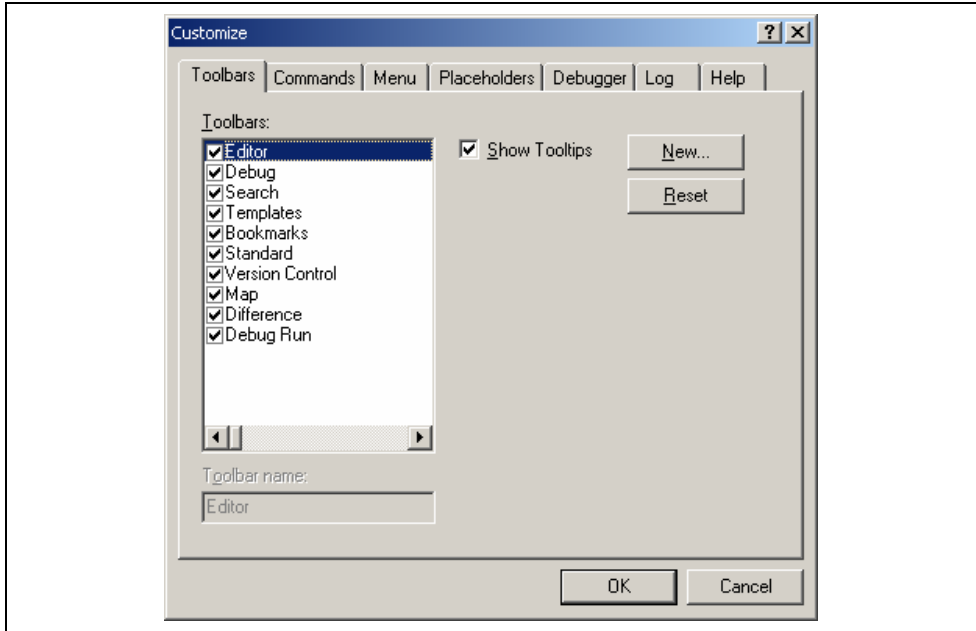
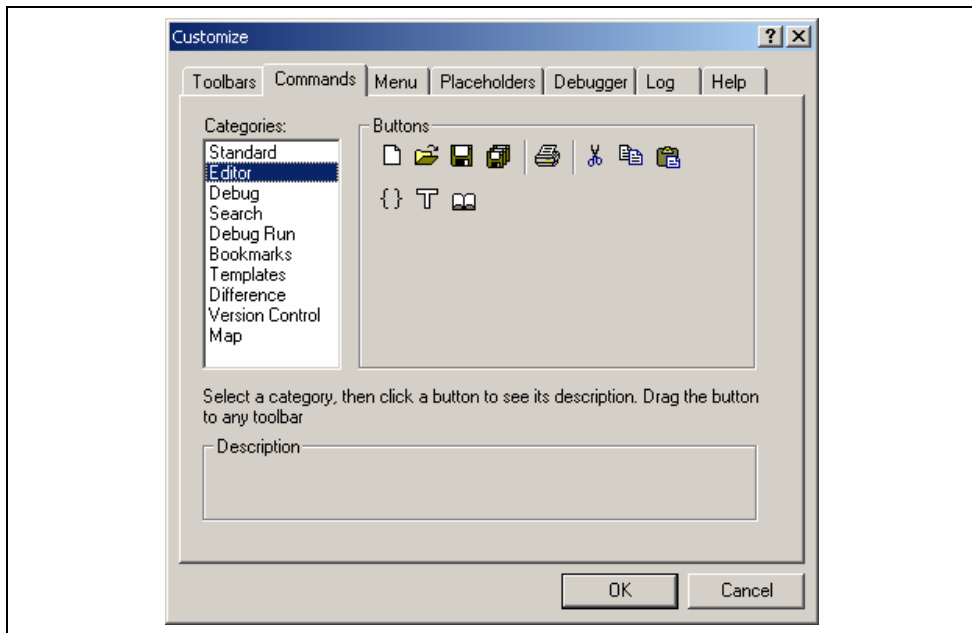
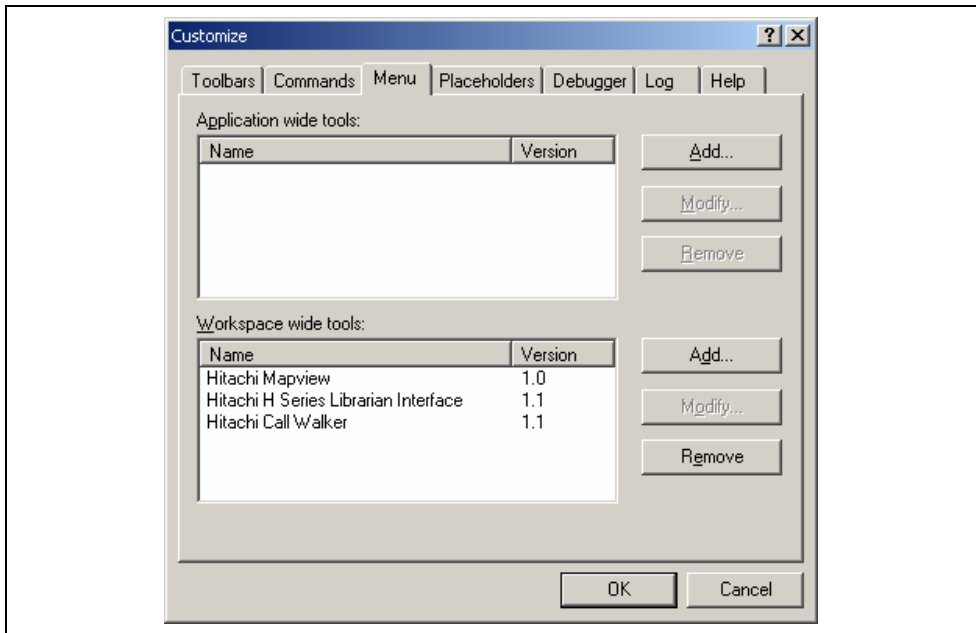
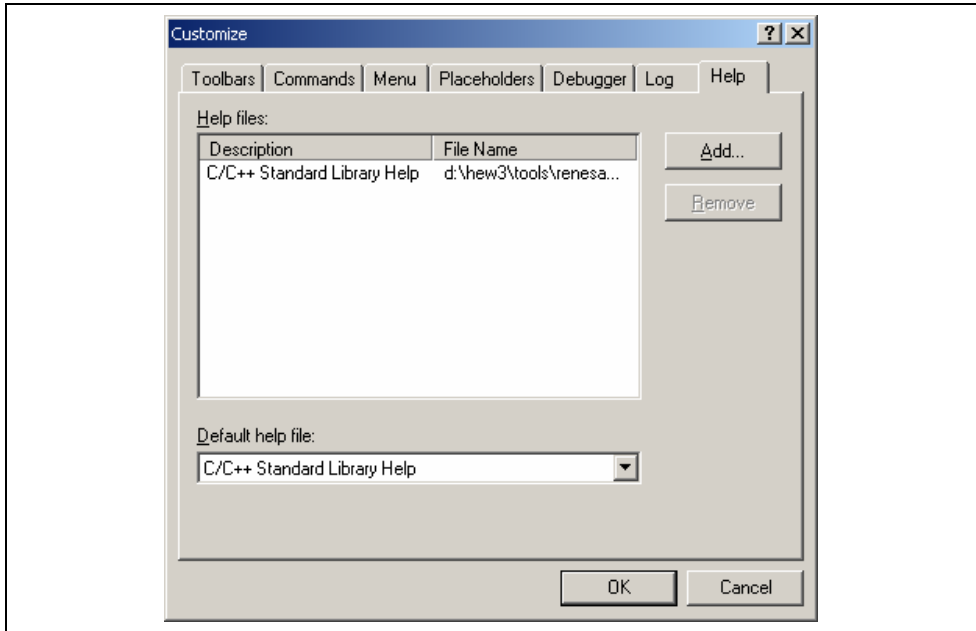

Figure 6.1: Customize Dialog Toolbars Tab
Figure 6.3: Customize Dialog Commands Tab
Figure 6.4: Customize Dialog Menu Tab
Figure 6.7: Customize Dialog Help Tab
The High-performance Embedded Workshop provides 2 standard toolbars as detailed in chapter 1, “Overview”. In addition to these, you may also construct your own toolbars via the “Customize” dialog (figure 6.1).
1. Select [**Tools->Customize...**]. The dialog shown in figure 6.1 will be displayed.
1. Select [**Tools->Customize...**]. The dialog shown in figure 6.1 will be displayed. Select the “Commands” tab (see figure 6.3).
2. Select the user-defined toolbar from the “Toolbars” list, and the “Reset” button in figure 6.1 changes to the “Delete” button. Then click the “Delete” button.
1. Select [**Tools->Customize...**]. The dialog shown in figure 6.1 will be displayed. Select the “Menu” tab (see figure 6.4). The first thing for you to decide is whether you are adding a global application wide tool (“Application wide tools:”), which will be available to all of your workspaces. Or whether you wish to add a workspace wide tool (“Workspace wide tool:”), which is only valid for the current workspace. Once you have made the choice choose the relevant section of the dialog.
1. Select [**Tools->Customize...**]. The dialog shown in figure 6.1 will be displayed. Select the “Menu” tab (see figure 6.4).
1. Select [**Tools->Customize...**]. The dialog shown in figure 6.1 will be displayed. Select the “Help” tab (see figure 6.7).